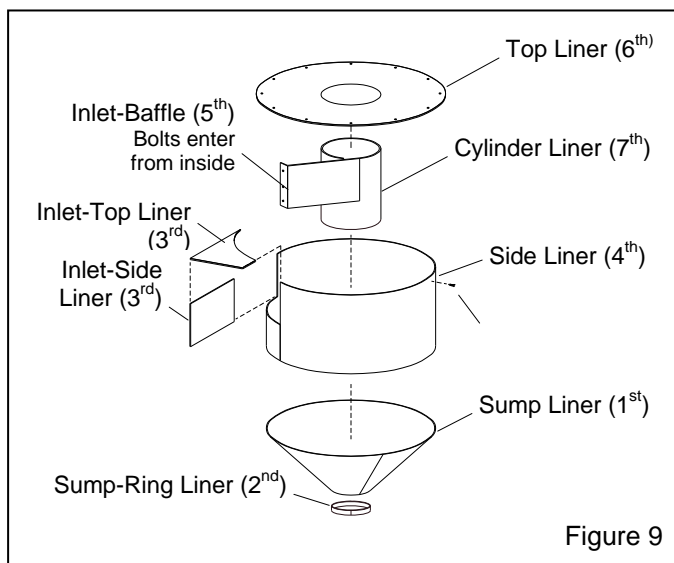

Figure 9
12.2 Replacing Rubber Reclaimer Liners, Figure 9
Installation Note: The sequence numbers in parenthesis (-) shown in Figure 9 and the applicable paragraph, show the recommended order of installation. When installing the liners, make sure that seams are aligned. The final assembly must be smooth and free of protrusions, edges, and gaps. Any of these imperfections could disrupt the air flow, causing wear, and affect the reclaimer media cleaning efficiency.